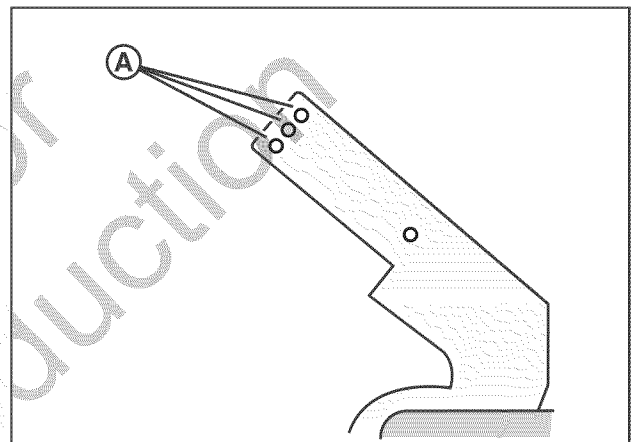

Figure 5: Height adjustment holes
2. Adjust the handle to a higher or lower height adjustment hole (A, Figure 5).